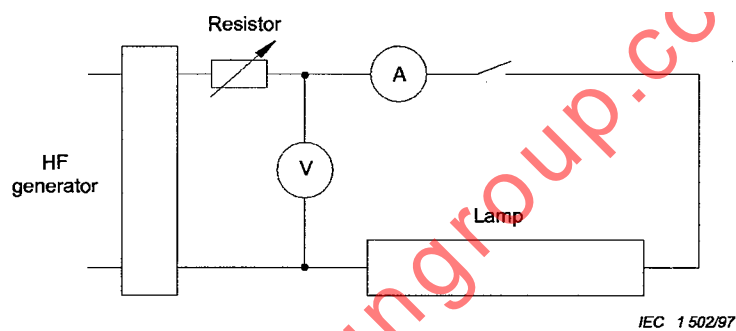

Figure A.5 – Circuit diagram for starting test for lamps with non-preheated cathodes for operation on high frequency
- figure A.5 for lamps with non-preheated cathodes.